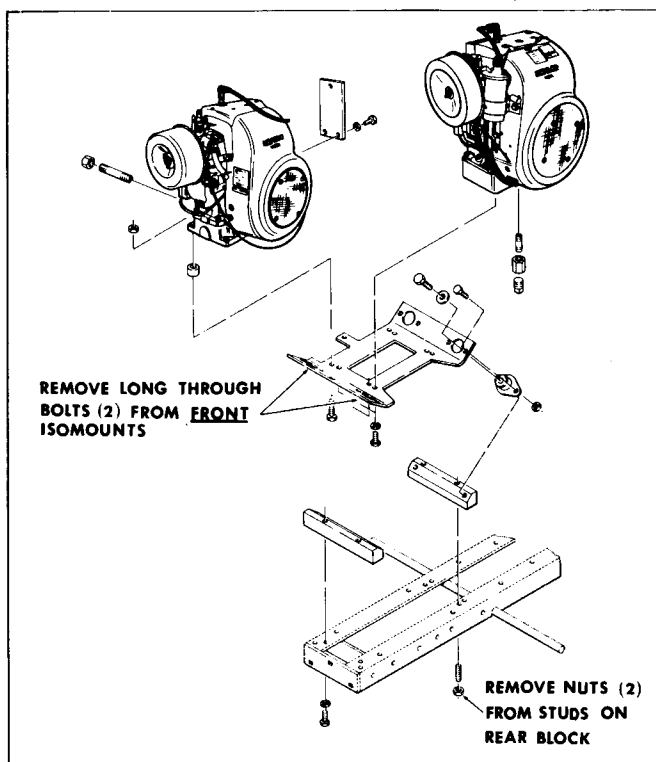

Fig. 4-8 C-Series Engine Mounting
11. Remove engine with rear block still attached. See Fig. 4-8.